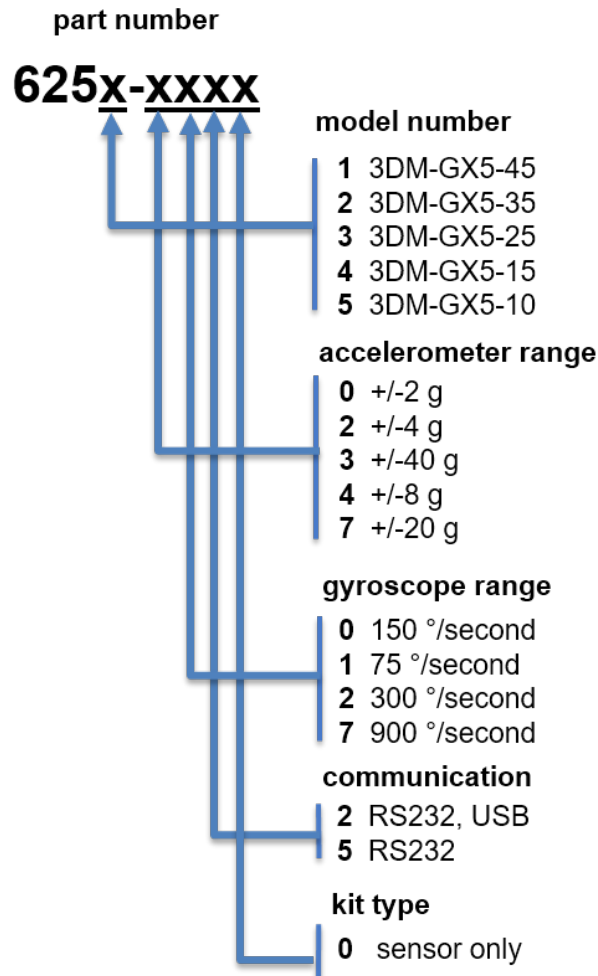

Figure 25 -Standard Part Numbers
*Table 3 - Model Numbers* describes the standard models available at the time this manual was published. Once a model is selected, the part number is further defined by desired configuration and interface options. The model determines the first four digits of the product part number; the options are indicated in the last four digits (*Figure 25 - Standard Part Numbers*).